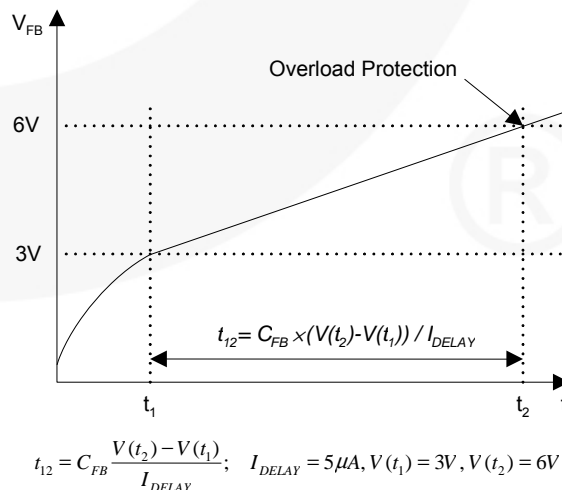

Figure 15. Overload Protection (OLP)
**4.1 Overload Protection (OLP):** Overload is defined as the load current exceeding a pre-set level due to an unexpected event. In this situation, the protection circuit should be activated to protect the SMPS. However, even when the SMPS is operating normally, the Overload Protection (OLP) circuit can be activated during the load transition. To avoid this undesired operation, the OLP circuit is designed to be activated after a specified time to determine whether it is a transient situation or a true overload situation. In conjunction with the Ipk current limit pin (if used), the Current Mode feedback path would limit the current in the SenseFET when the maximum PWM duty cycle is attained. If the output consumes more than this maximum power, the output voltage (Vo) decreases below its nominal voltage. This reduces the current through the optocoupler LED, which also reduces the optocoupler transistor current, thus increasing the feedback voltage (VFB). If VFB exceeds 3V, the feedback input diode is blocked and the 5μA current source (IDELAY) starts to slowly charge Cfb up to VCC. In this condition, VFB increases until it reaches 6V, when the switching operation is terminated (as shown in Figure 15). The shutdown delay is the time required to charge Cfb from 3V to 6V with 5μA current source.